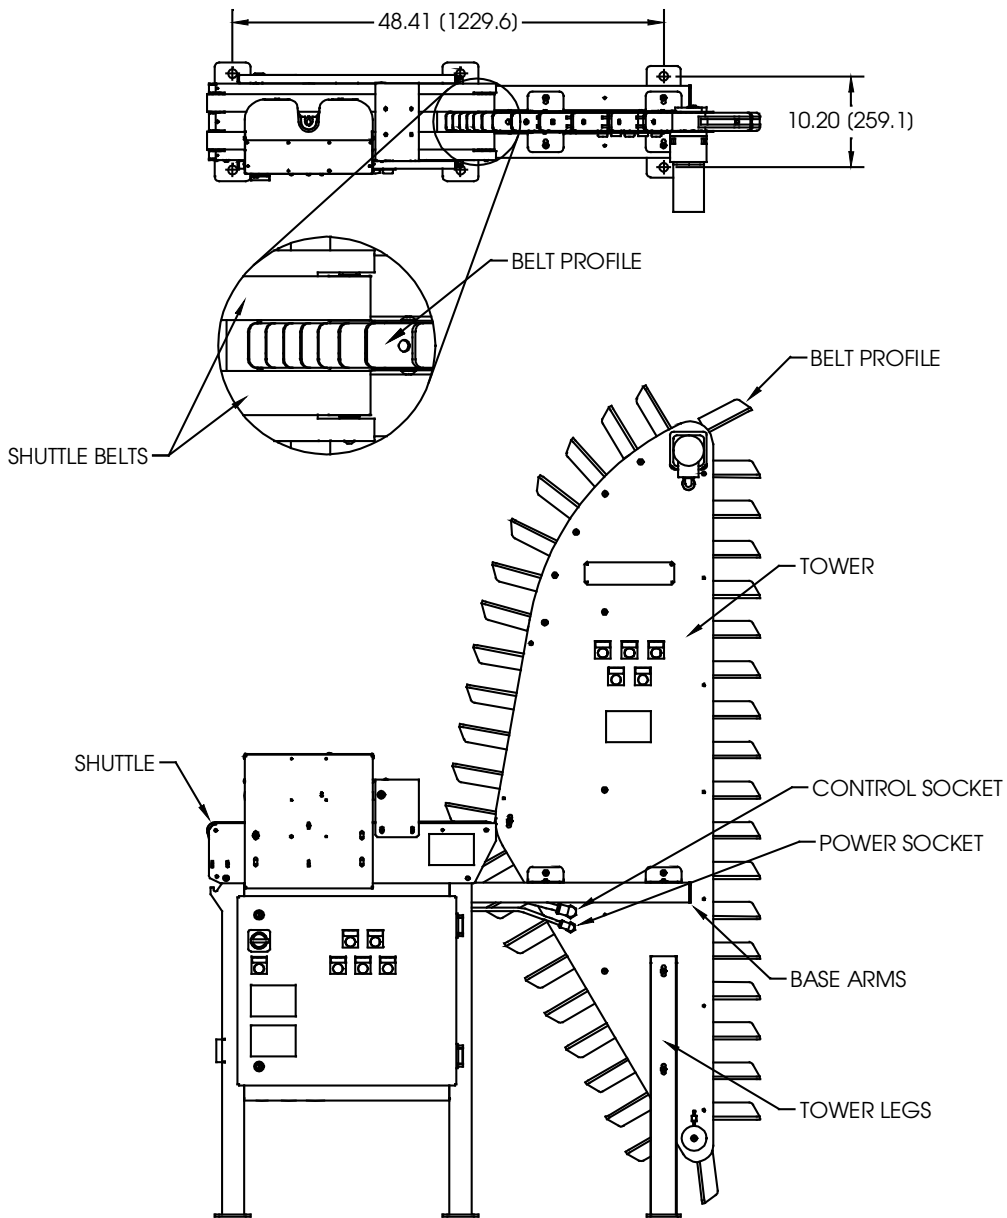

Figure 6. Standard Disk Manager
1. Place the Tower upright on the Base Arms. The Mounting Flanges rest on top of the Base Arms (see Figure 6.)
2. Position the Tower so that the Belt Profiles are between the two Shuttle Belts as shown in Figure 6. The Mounting Holes and the holes on the Base Arms should be aligned. The Tower should not contact the Shuttle Belts.
3. Place the (4) four 3/8 inch diameter fasteners and locknuts through the Mounting Flange and Base Arm holes and lightly tighten the locknuts.
4. Place (2) two 1/2 inch diameter fasteners and washers through the Mounting Holes in the Tower Feet to secure the Tower. The Tower Legs are vertically adjustable via the (4) four 3/8 inch fasteners securing the Tower Legs to the Tower. All Tower Leg fasteners should be lightly tightened. Make sure that the Tower is plumb. Shim under the Tower Feet if necessary.
8. Use the *Start* and *Stop* buttons located on the Tower to jog a Belt Profile into a position between the Shuttle Belts. Align the Tower so that the Belt Profiles are centered between the Shuttle Belts as shown below in Figure 6. Care should be taken not to jam the Tower Belt. If the Tower Belt does jam, press the *Stop* button and realign the Tower to the Base Unit.
10. Tighten the (10) ten fasteners.